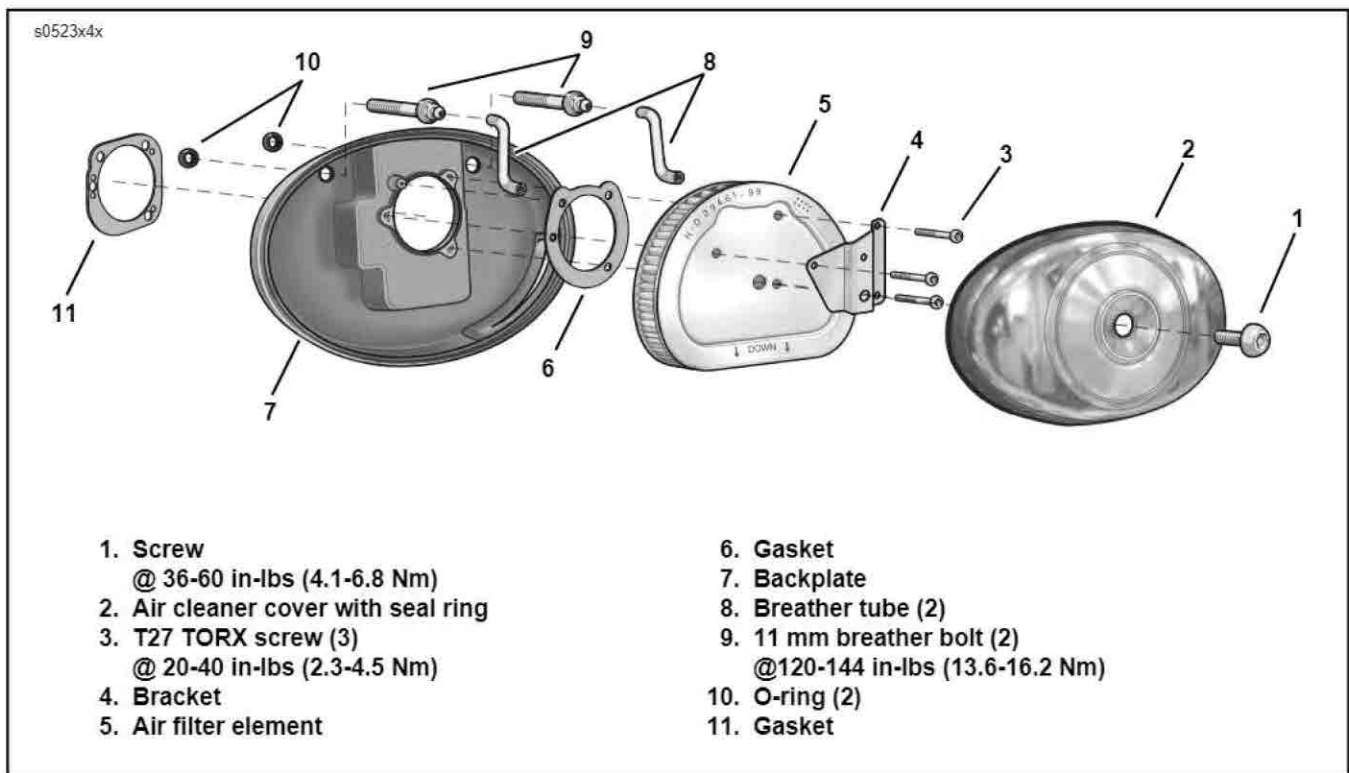

Figure 10. Air Cleaner Assembly
1. See Figure 10. Position gasket (11) and two O-rings (10) on the backplate.
2. Insert two breather bolts (9) (metric) into the backplate. Thread bolts loosely into each cylinder head. Final tighten bolts to 120-144 **in-lbs** (13.6-16.3 Nm).
3. Insert two breather tubes (8) into the holes in the back of the air filter element. Place the filter element back into position, and attach the breather tubes to the breather bolts.
4. Install the air filter element (5) and bracket (4).
- a. Make sure gasket (6) holes are aligned with backplate holes.
- b. Use three TORX screws (3) to secure bracket and filter element. Tighten to 20-40 **in-lbs** (2.3-4.5 Nm).
5. Install air cleaner cover (2).
- a. Apply a drop of LOCTITE THREADLOCKER 243 (blue) to threads of the air cleaner cover screw (1).